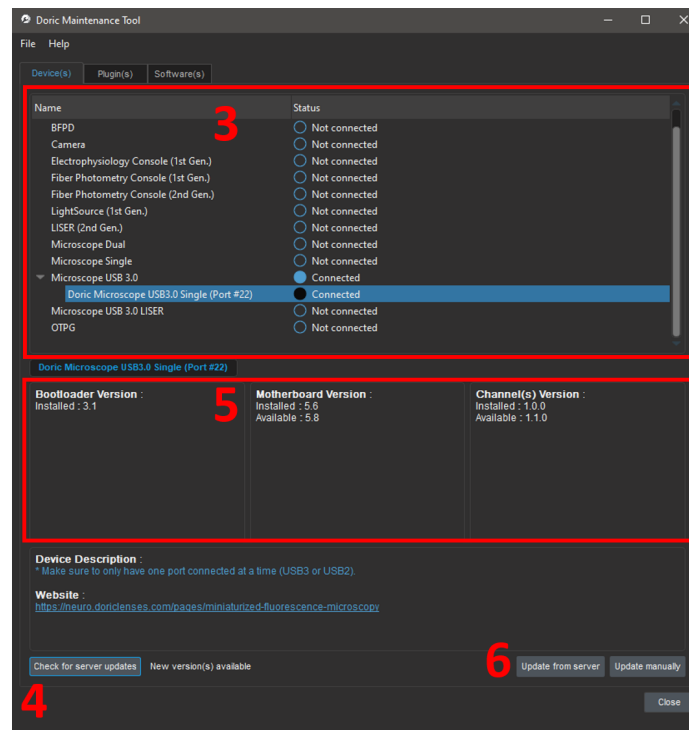

Figure 2.14: Doric Maintenance Tool home page
- In the list, under **Name**, select the device to update (its status needs to be **Connected**) (Fig. 2.14).
4. Select **Check for server updates**. **Doric Maintenance Tool** will connect to the server and verify if an update is available (Fig. 2.14).
5. Under **Motherboard Version** and **Channel(s) Version**, the present version and the available versions are displayed (Fig. 2.14).
6. Select **Update from the server** to launch the update. (In some cases, an update can be necessary without using the server version. In this case, a representative of Doric Lenses will send you the update file and you can use **Update manually** in replacement of **Update from server**) (Fig. 2.14).